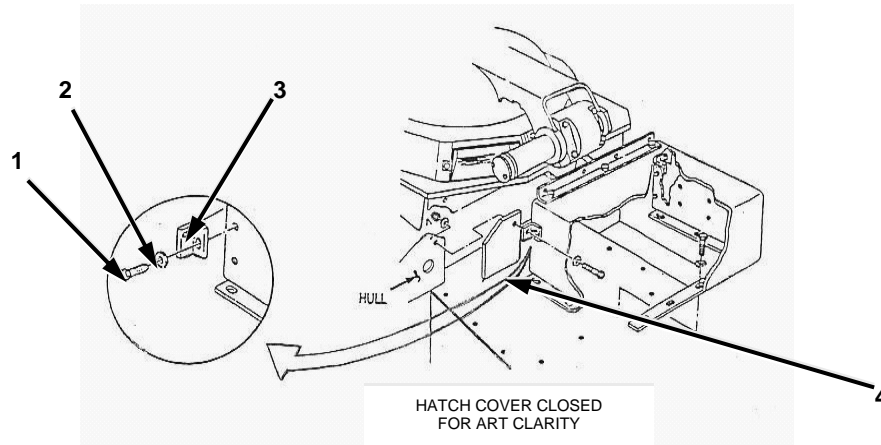

Figure 2-7. Removal of MCS Preparation Kit Brackets.
Step 4 below applies to Figure 2-7.
4. For vehicles equipped with MCS preparation kit only, remove screw (1), washer (2), and MCS prep spacer plate (4) from the upper left rear corner of driver's compartment and the angle plate (3) from the left front side of the radio box case. Discard MCS prep spacer plate, angle plate, and attaching hardware.